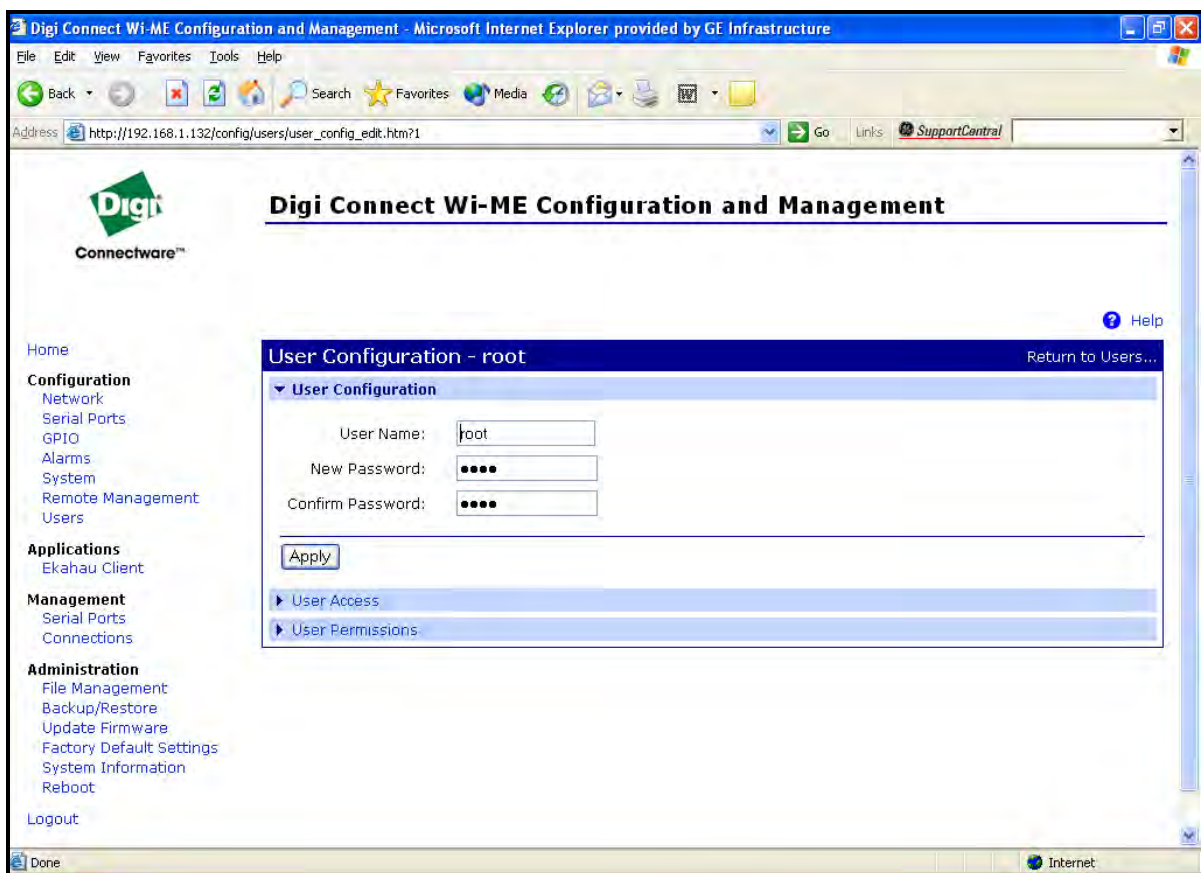

Figure 45: Changing the User Name and/or Password
5. Click on **New....** Figure 45 on page 59 appears.